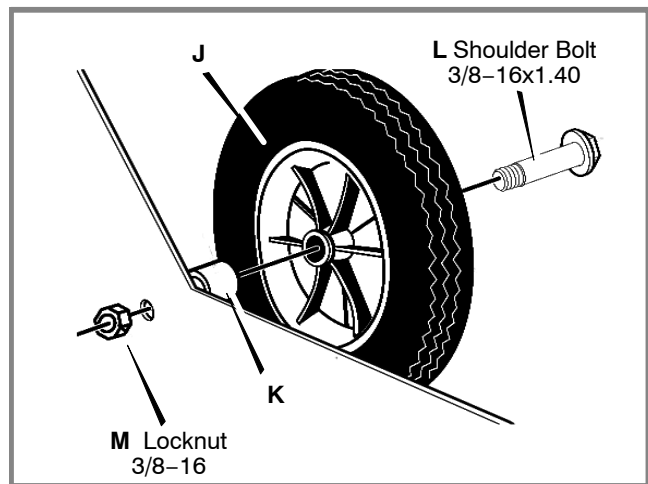

Figure 5: Left Rear Wheel
- 3 Attach the left rear wheel (J) and the short spacer (K) to the edger frame with the fasteners (L, M) shown in Figure 5.